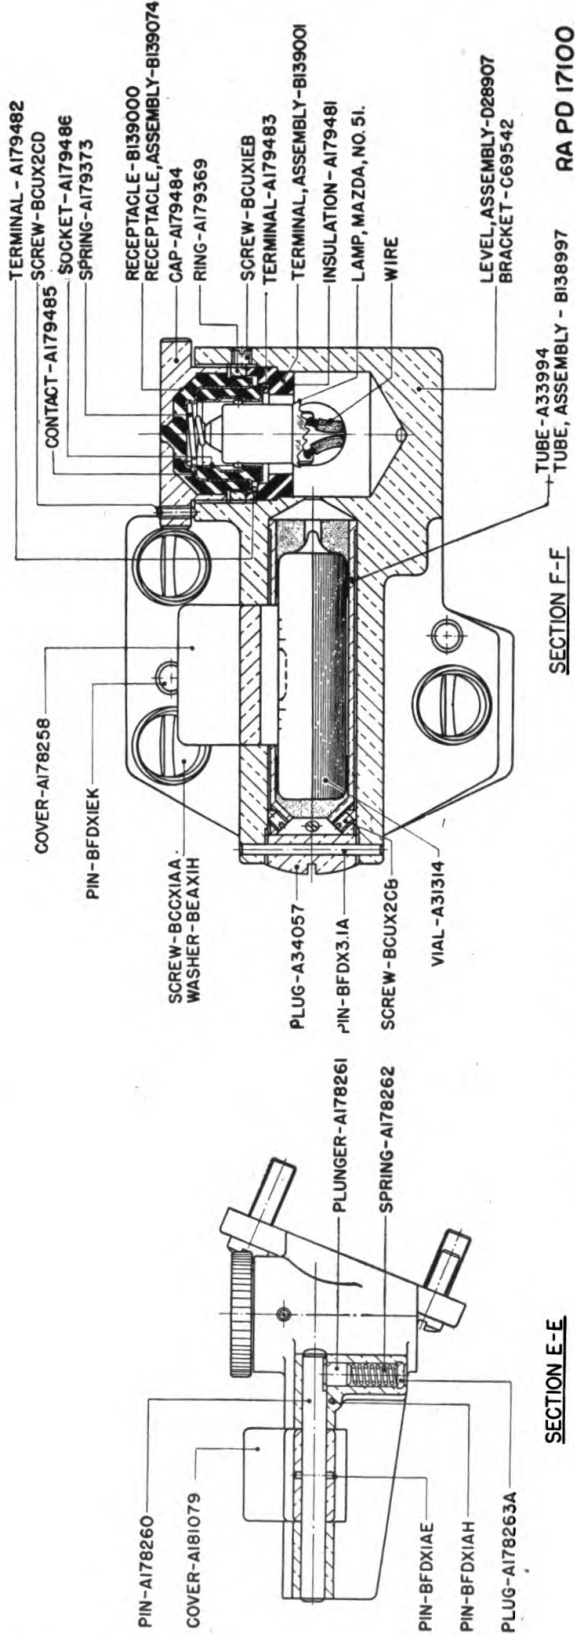

FIGURE 9.—Leveling mechanism assembly—Sections E-E and F-F.
8. Cross level assembly.—*a.* Both the cross level vial assembly and the longitudinal level vial assembly are contained in the cross level bracket (C69542, fig. 9) which is mounted on the support.